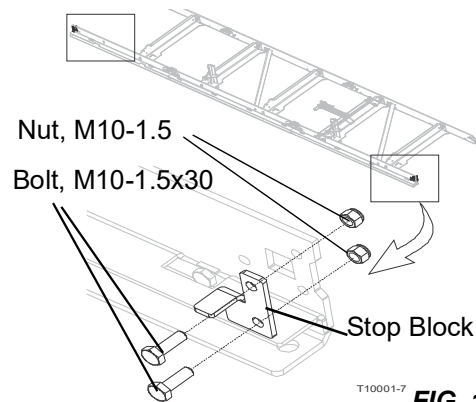

FIG. 1-14
2. Attach the stop blocks (X100-1275) on the outside surface of the bed section at the head of the bed using M10-1.5x30 bolts. Tighten the nuts. See FIG. 1-14.